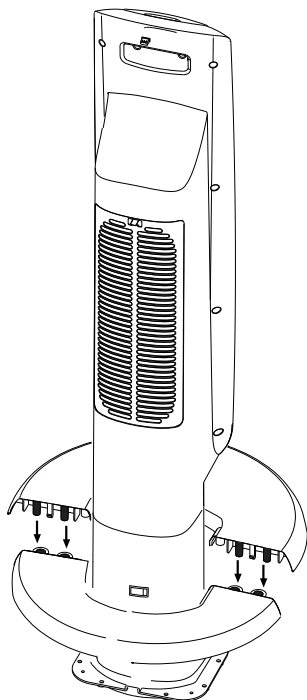

Fig. 1
1. Fit the base of the appliance to the body by inserting the pins in their housings (see figure 1).